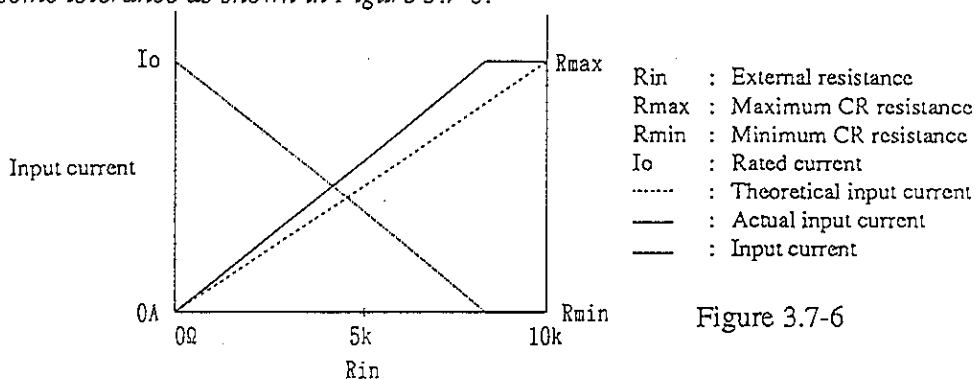

Figure 3.7-6
- The control circuit of the Electronic Load is designed so that the current (Io) becomes absolutely zero amperes when the external resistor (Rin) is 10kΩ--this resistance with some tolerance as shown in Figure 3.7-6.